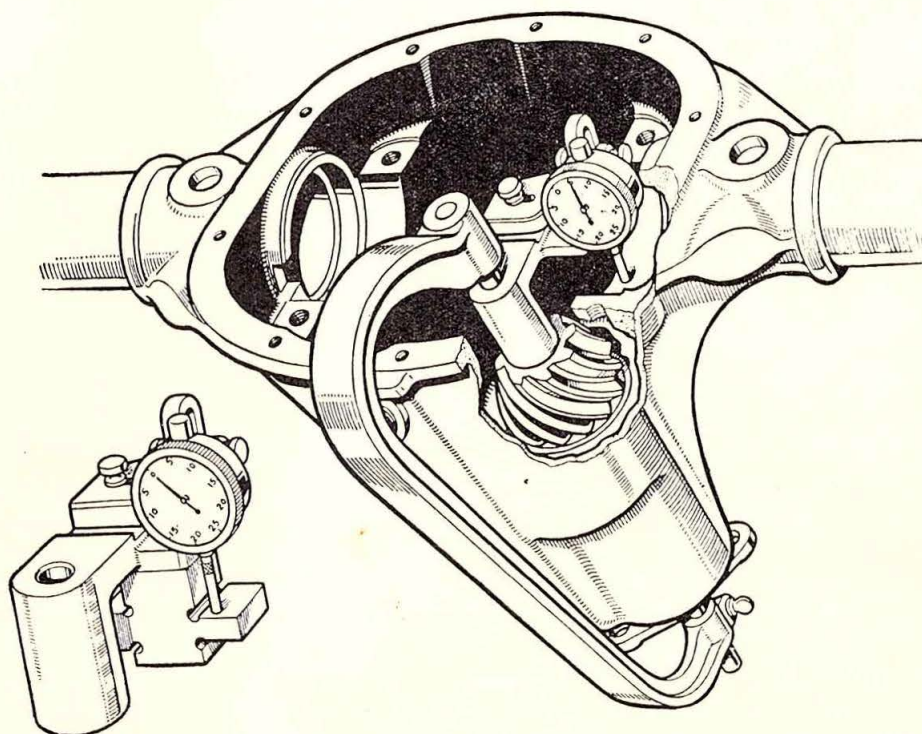

Fig. 16. Checking pinion cone setting.
- (5) Fit pinion outer bearing cone, companion flange, washer and nut only, omitting the oil slinger and oil seal assembly, and tighten the nut.
- (6) Check the pinion cone setting distance by means of the gauge, Tool No. SL.3P, as shown in Fig. 16. The procedure for using the gauge is :—